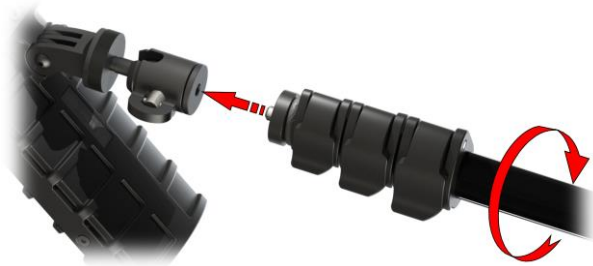

fig.10
3. Install the main unit on the telescopic handle. Insert the handle screw into the threaded hole of the main unit bracket. Turning the telescopic handle, tighten the screw until it stops (fig.10).